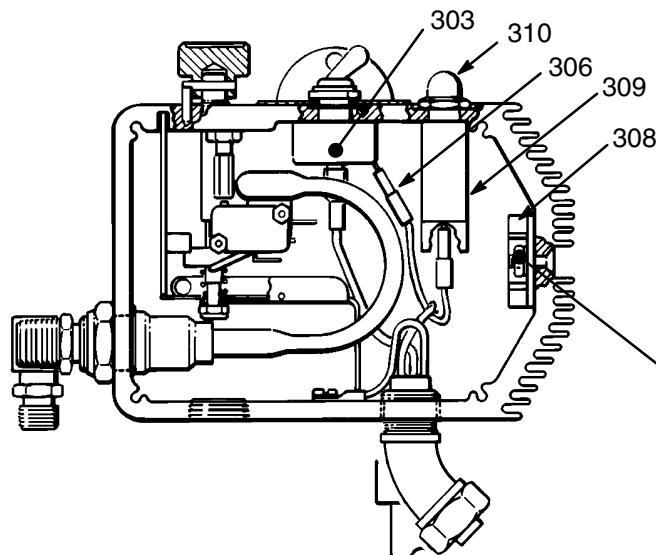

Fig 25-1
The lockwashers (333) must be in front of the bridge to avoid overheating which will result in bridge failure. Refer to the DETAIL in Fig 25-1.
Refer to Fig 25-1.